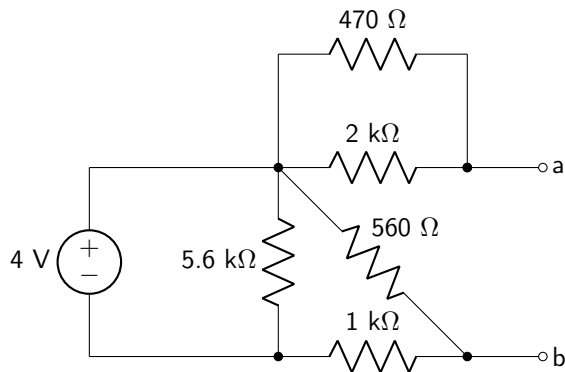

Figure 5.11: One of the Thévenin mystery box circuits.
5. Consider the circuit shown in figure 5.11. Calculate the Thévenin equivalent voltage and resistance with respect to nodes a and b. When you have completed this, identify which of the mystery circuits that it is.